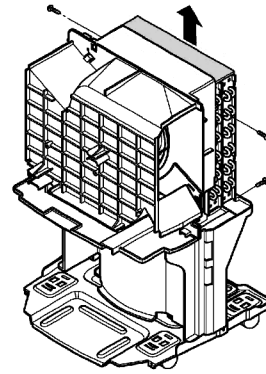

Figure 22
1. Remove 4 screws that fasten the housing assembly to the heat exchanger and drain pan. Lift the housing assembly upward after unhooking 2 hooks on the housing. (See Figure 22)